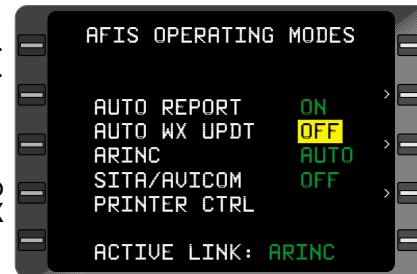

Figure 7-115
5. **BACK** Key - DEPRESS. **OFF** appears in the cursor. (Figure 7-115)